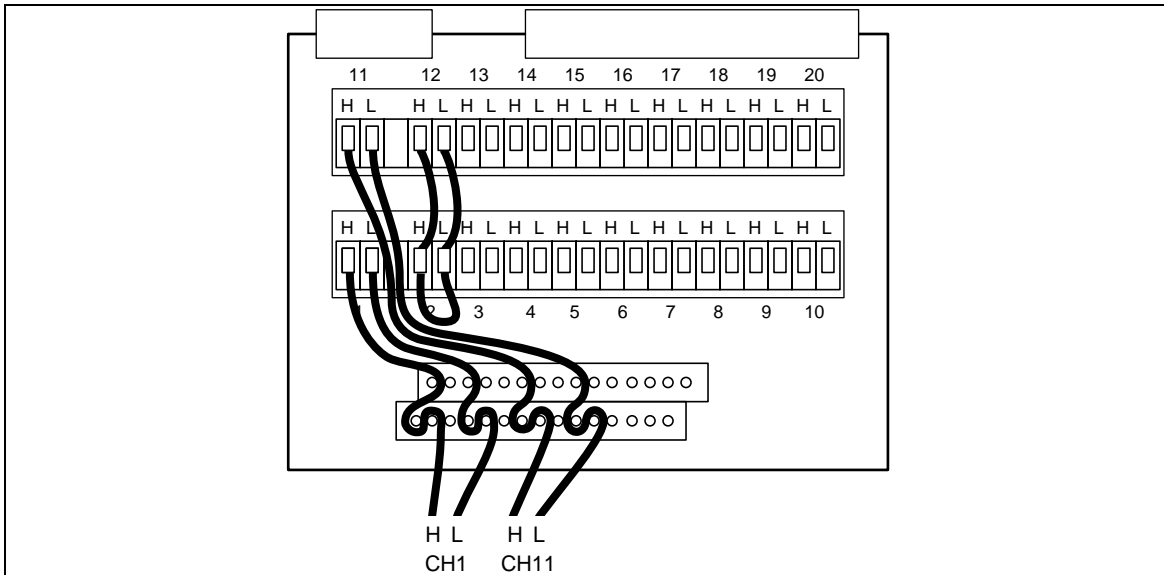

Figure 4-6. Universal Input Module Calibration Connections
2. Wire the Universal Input Module so the high and low inputs to channels 1 and 11 are externally available. In addition, a four-wire short must be applied to channels 2 and 12. (See Figure 4-6.) Plug the module into the instrument.